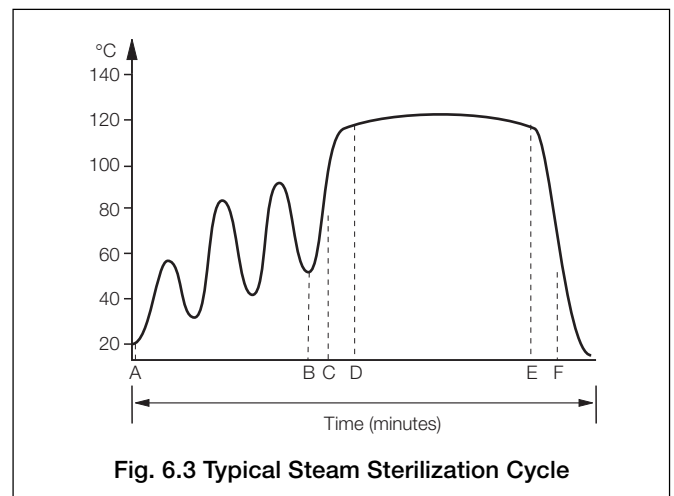

Fig. 6.3 Typical Steam Sterilization Cycle
#### Calculation – Fig. 6.3
**Example** – A typical steam sterilizing cycle – see Fig. 6.3.